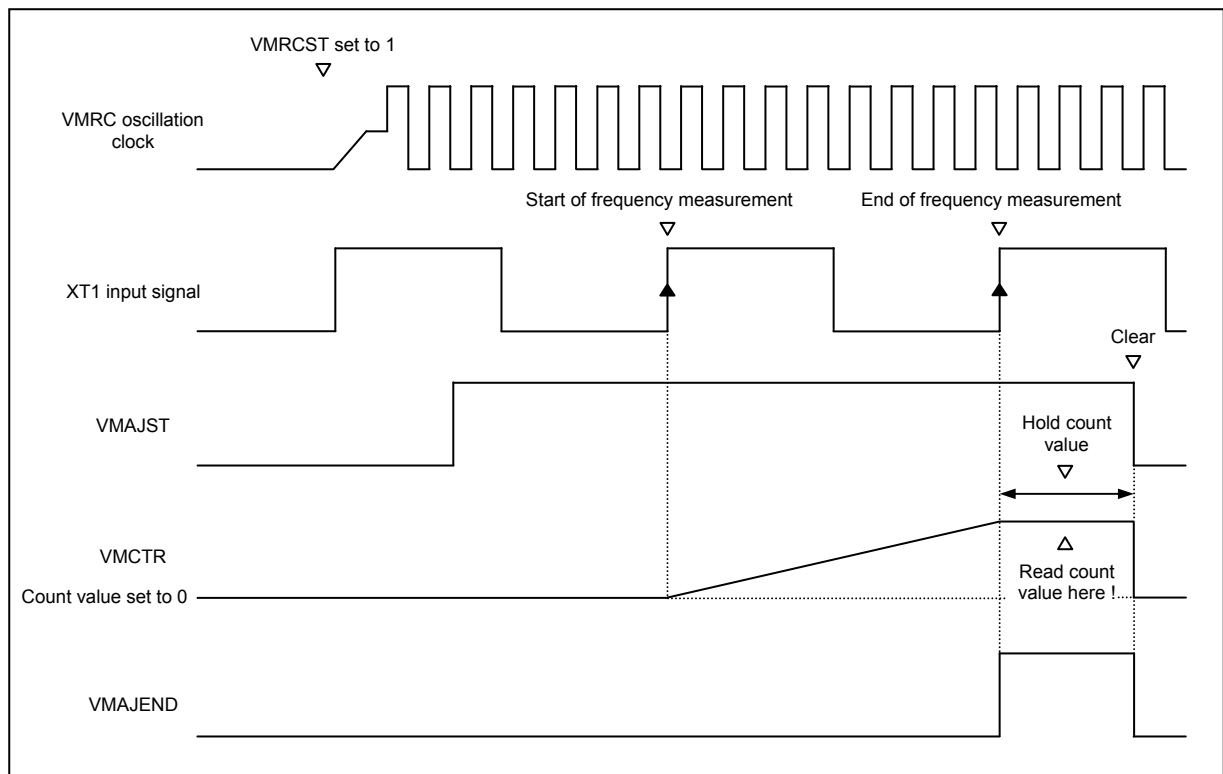

Figure 4.3.2 VMRC Frequency Measurement Timing Chart
- 2) When VMAJST is set to 1 after VMRC oscillation is started, the counter counts the number of VMRC oscillation clocks generated during 1 period which is determined by the reference input signals from the XT1 pin (see Figure 4.3.2 for details).
- 3) When VMAJST is set to 1 after VMRC oscillation is started, the counter counts the number of VMRC oscillation clocks generated during 1 cycle which is determined by the reference input signals from the XT1 pin (see Figure 4.3.2 for details).